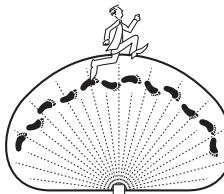

Figure 10
2. Perform a "walk test": walk in an arc across the front of the motion sensor (see Figure 10).